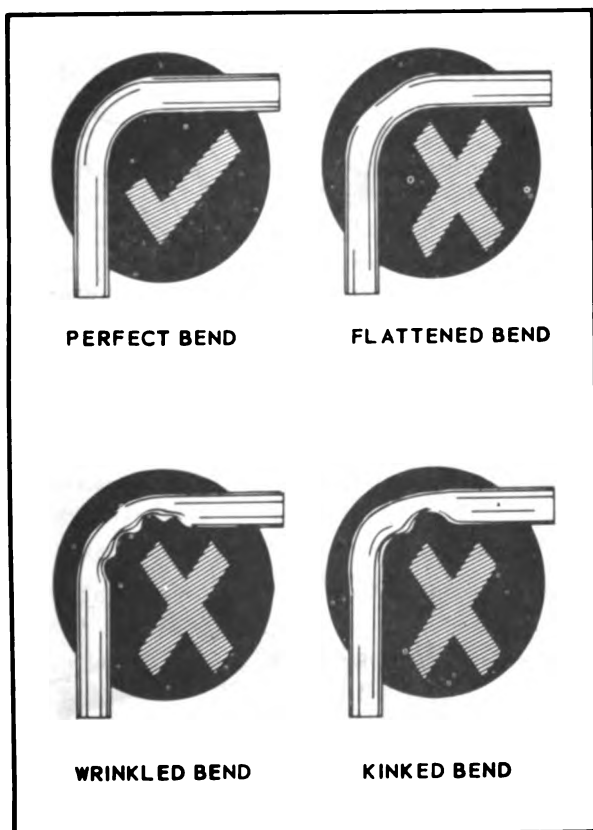

Figure 11-3. Good and Bad Conduit Bends
c. Examine conduit bends for cracks, and for flattening which may reduce the area. When tubing is flattened into an ellipse whose minor diameter is 75% of the nominal tubing diameter, the area is reduced by 10%. If the conduit is flattened more than this, reject it. See figure 11-3 for examples of good and bad bends.